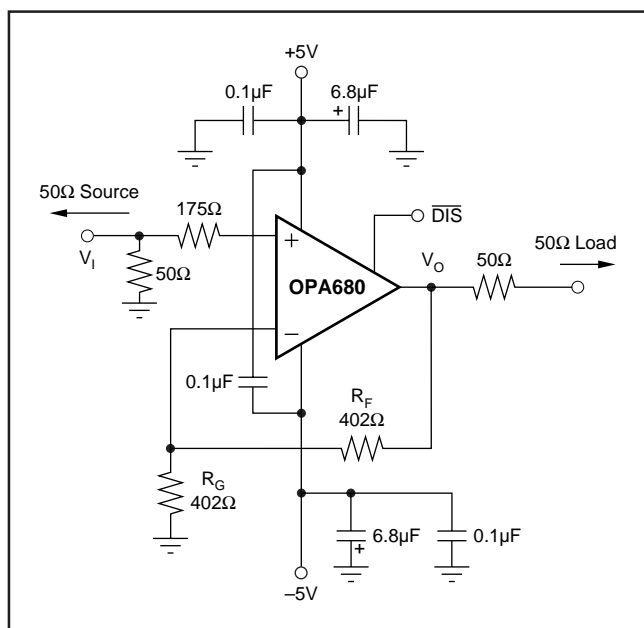
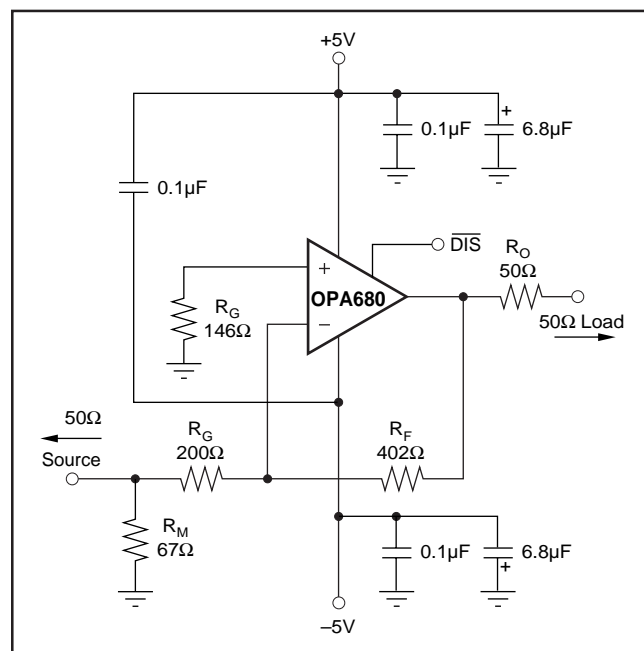

FIGURE 1. DC-Coupled,  $G = +2$ , Bipolar Supply, Specification and Test Circuit.
FIGURE 8. Gain of -2 Example Circuit.
At  $T_A = +25^\circ C$ ,  $G = +2$ ,  $R_F = 402\Omega$ , and  $R_L = 100\Omega$ , unless otherwise noted. See Figure 1.
Figure 1 shows the DC-coupled, gain of +2, dual power supply circuit configuration used as the basis of the  $\pm 5\text{V}$  Specifications and Typical Performance Curves. For test purposes, the input impedance is set to  $50\Omega$  with a resistor to ground and the output impedance is set to  $50\Omega$  with a series output resistor. Voltage swings reported in the specifications are taken directly at the input and output pins, while output powers (dBm) are at the matched  $50\Omega$  load. For the circuit of Figure 1, the total effective load will be  $100\Omega \parallel 804\Omega$ . The disable control line is typically left open to guarantee normal amplifier operation. Two optional components are included in Figure 1. An additional resistor ( $175\Omega$ ) is included in series with the non-inverting input. Combined with the  $25\Omega$  DC source resistance looking back towards the signal generator, this gives an input bias current cancelling resistance that
A good rule of thumb is to target the parallel combination of  $R_F$  and  $R_G$  (Figure 1) to be less than approximately  $300\Omega$ . The combined impedance  $R_F \parallel R_G$  interacts with the inverting input capacitance, placing an additional pole in the feedback network and thus, a zero in the forward response. Assuming a  $2pF$  total parasitic on the inverting node, holding  $R_F \parallel R_G < 300\Omega$  will keep this pole above  $250MHz$ . By itself, this constraint implies that the feedback resistor  $R_F$  can increase to several  $k\Omega$  at high gains. This is acceptable as long as the pole formed by  $R_F$  and any parasitic capacitance appearing in parallel is kept out of the frequency range of interest.
Voltage feedback op amps exhibit decreasing closed-loop bandwidth as the signal gain is increased. In theory, this relationship is described by the Gain Bandwidth Product (GBP) shown in the specifications. Ideally, dividing GBP by the non-inverting signal gain (also called the Noise Gain, or NG) will predict the closed-loop bandwidth. In practice, this only holds true when the phase margin approaches  $90^\circ$ , as it does in high gain configurations. At low gains (increased feedback factors), most amplifiers will exhibit a more complex response with lower phase margin. The OPA680 is compensated to give a slightly peaked response in a non-inverting gain of 2 (Figure 1). This results in a typical gain of +2 bandwidth of  $220MHz$ , far exceeding that predicted by dividing the  $300MHz$  GBP by 2. Increasing the gain will cause the phase margin to approach  $90^\circ$  and the bandwidth to more closely approach the predicted value of  $(GBP/NG)$ . At a gain of +10, the  $30MHz$  bandwidth shown in the Typical Specifications agrees with that predicted using the simple formula and the typical GBP of  $300MHz$ .
Frequency response in a gain of +2 may be modified to achieve exceptional flatness simply by increasing the noise gain to 2.5. One way to do this, without affecting the +2 signal gain, is to add an  $804\Omega$  resistor across the two inputs in the circuit of Figure 1. A similar technique may be used
Since the OPA680 is a general purpose, wideband voltage feedback op amp, all of the familiar op amp application circuits are available to the designer. Inverting operation is one of the more common requirements and offers several performance benefits. Figure 8 shows a typical inverting configuration where the I/O impedances and signal gain from Figure 1 are retained in an inverting circuit configuration.
amplifier output. For an inverting gain of 2, setting  $R_G$  to  $50\Omega$  for input matching eliminates the need for  $R_M$  but requires a  $100\Omega$  feedback resistor. This has the interesting advantage that the noise gain becomes equal to 2 for a  $50\Omega$  source impedance—the same as the non-inverting circuits considered above. However, the amplifier output will now see the  $100\Omega$  feedback resistor in parallel with the external load. In general, the feedback resistor should be limited to the  $200\Omega$  to  $1.5k\Omega$  range. In this case, it is preferable to increase both the  $R_F$  and  $R_G$  values as shown in Figure 8, and then achieve the input matching impedance with a third resistor ( $R_M$ ) to ground. The total input impedance becomes the parallel combination of  $R_G$  and  $R_M$ .
The second major consideration, touched on in the previous paragraph, is that the signal source impedance becomes part of the noise gain equation and hence influences the bandwidth. For the example in Figure 8, the  $R_M$  value combines in parallel with the external  $50\Omega$  source impedance, yielding an effective driving impedance of  $50\Omega \parallel 67\Omega = 28.6\Omega$ . This impedance is added in series with  $R_G$  for calculating the noise gain (NG). The resultant NG is 2.8 for Figure 8, as opposed to only 2 if  $R_M$  could be eliminated as discussed above. The bandwidth will therefore be slightly lower for the gain of  $-2$  circuit of Figure 8 than for the gain of  $+2$  circuit of Figure 1.
The third important consideration in inverting amplifier design is setting the bias current cancellation resistor on the non-inverting input ( $R_B$ ). If this resistor is set equal to the total DC resistance looking out of the inverting node, the output DC error, due to the input bias currents, will be reduced to (Input Offset Current)  $\cdot R_F$ . If the  $50\Omega$  source impedance is DC-coupled in Figure 8, the total resistance to ground on the inverting input will be  $228\Omega$ . Combining this in parallel with the feedback resistor gives the  $R_B = 146\Omega$  used in this example. To reduce the additional high frequency noise introduced by this resistor, it is sometimes bypassed with a capacitor. As long as  $R_B < 350\Omega$ , the capacitor is not required since the total noise contribution of all other terms will be less than that of the op amp's input noise voltage. As a minimum, the OPA680 requires an  $R_B$  value of  $50\Omega$  to damp out parasitic-induced peaking—a direct short to ground on the non-inverting input runs the risk of a very high frequency instability in the input stage.
The OPA680 provides good distortion performance into a 100Ω load on  $\pm 5V$  supplies. Relative to alternative solutions, it provides exceptional performance into lighter loads and/or operating on a single +5V supply. Generally, until the fundamental signal reaches very high frequency or power levels, the 2nd harmonic will dominate the distortion with a negligible 3rd harmonic component. Focusing then on the 2nd harmonic, increasing the load impedance improves distortion directly. Remember that the total load includes the feedback network; in the non-inverting configuration (Figure 1) this is sum of  $R_F + R_G$ , while in the inverting configuration, it is just  $R_F$ . Also, providing an additional supply decoupling capacitor (0.1μF) between the supply pins (for bipolar operation) improves the 2nd-order distortion slightly (3dB to 6dB).
Evaluating these two equations for the OPA680 circuit and component values shown in Figure 1 will give a total output spot noise voltage of  $11\text{nV}/\sqrt{\text{Hz}}$  and a total equivalent input spot noise voltage of  $5.5\text{nV}/\sqrt{\text{Hz}}$ . This is including the noise added by the bias current cancellation resistor ( $175\Omega$ ) on the non-inverting input. This total input-referred spot noise voltage is only slightly higher than the  $4.8\text{nV}/\sqrt{\text{Hz}}$  specification for the op amp voltage noise alone. This will be the case
as long as the impedances appearing at each op amp input are limited to the previously recommend maximum value of  $300\Omega$ . Keeping both  $(R_F \parallel R_G)$  and the non-inverting input source impedance less than  $300\Omega$  will satisfy both noise and frequency response flatness considerations. Since the resistor-induced noise is relatively negligible, additional capacitive decoupling across the bias current cancellation resistor ( $R_B$ ) for the inverting op amp configuration of Figure 8 is not required.
The balanced input stage of a wideband voltage feedback op amp allows good output DC accuracy in a wide variety of applications. The power supply current trim for the OPA680 gives even tighter control than comparable products. Although the high speed input stage does require relatively high input bias current (typically  $14\mu\text{A}$  out of each input terminal), the close matching between them may be used to reduce the output DC error caused by this current. The total output offset voltage may be considerably reduced by matching the DC source resistances appearing at the two inputs. This reduces the output DC error due to the input bias currents to the offset current times the feedback resistor. Evaluating the configuration of Figure 1, using worst-case  $+25^\circ\text{C}$  input offset voltage and current specifications, gives a worst-case output offset voltage equal to: – ( $NG$  = non-inverting signal gain)